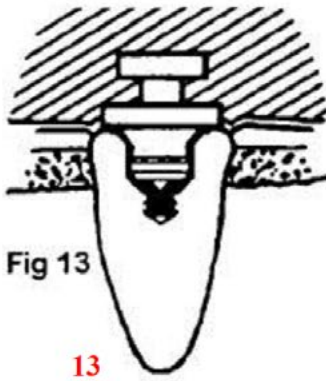

Fig 13
2. Place an Impression Male in the metal female cemented in the oral cavity. Make sure you feel a positive snap, indicating the Impression Male is fully engaged. The male should seat flush on the flange of the metal female component (**Fig 13**).
2. Place an Impression Male in the metal female cemented in the oral cavity. Make sure you feel a positive snap, indicating the Impression Male is fully engaged. The male should seat flush on the flange of the metal female component (Fig 13).